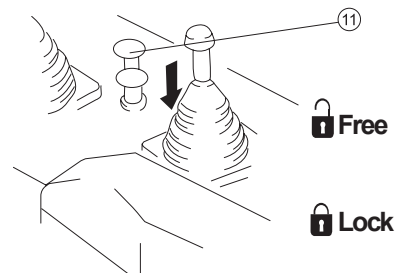

Figure 2-16
The ripper lock button (11) (Figure 2-16)